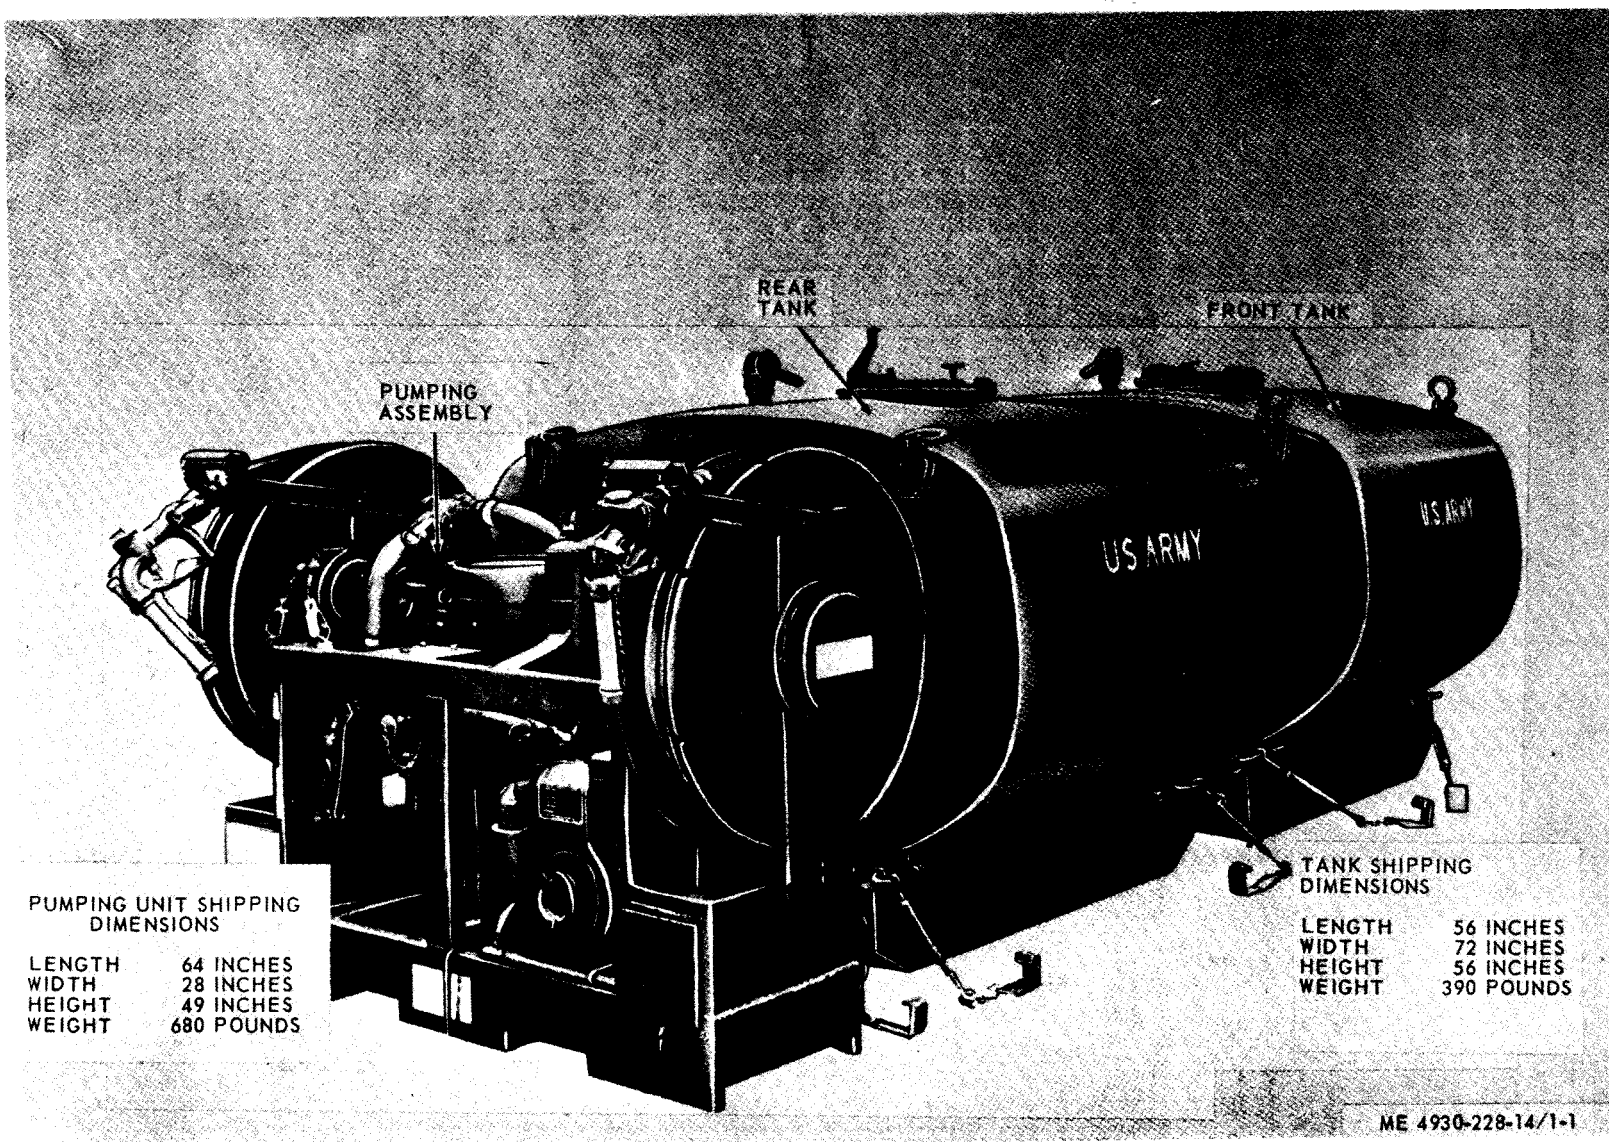

Figure 1-1. Tank and pump unit, with shipping dimensions.
a. General. The tank and pump unit consists of a 50 gpm (gallons per minute) pumping assembly (fig. 1-1), two 600-gallon tanks, and related items. It is designed for use with 2½-ton, 6 x 6 cargo trucks M-34, M-35, and M-211; and with 5-ton, 6 x 6 cargo trucks M-41 and M-54. When installed in